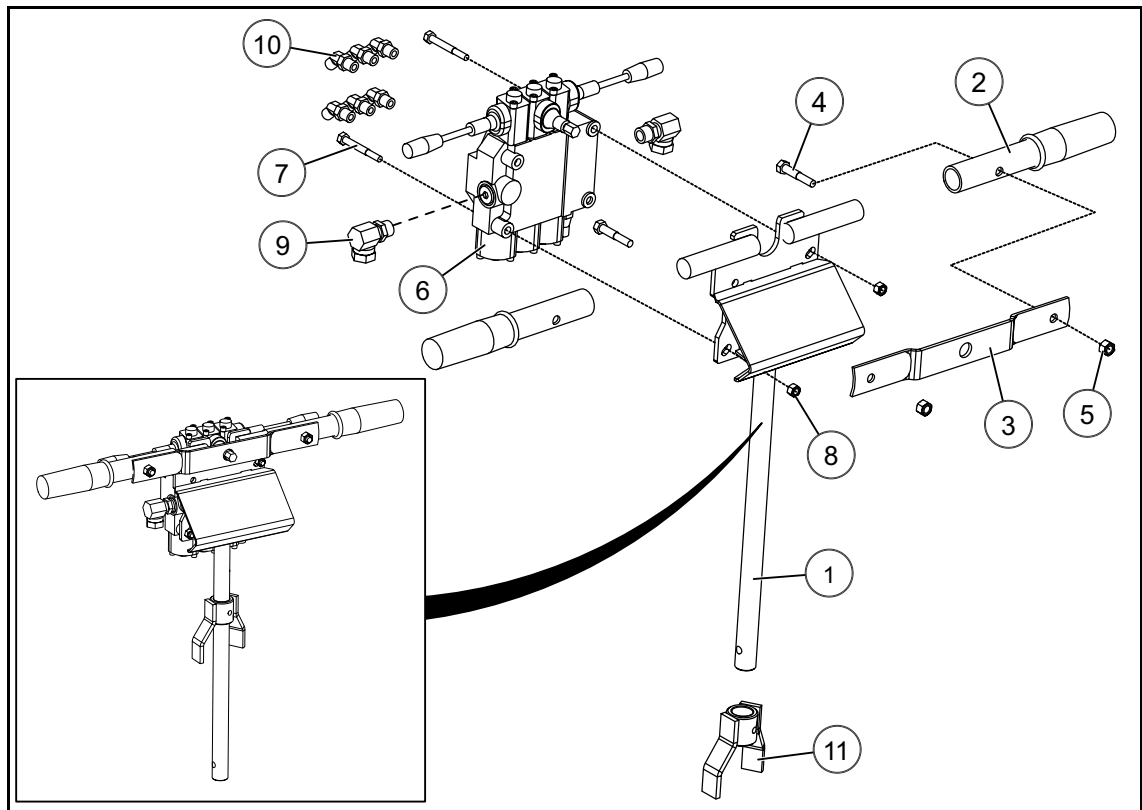
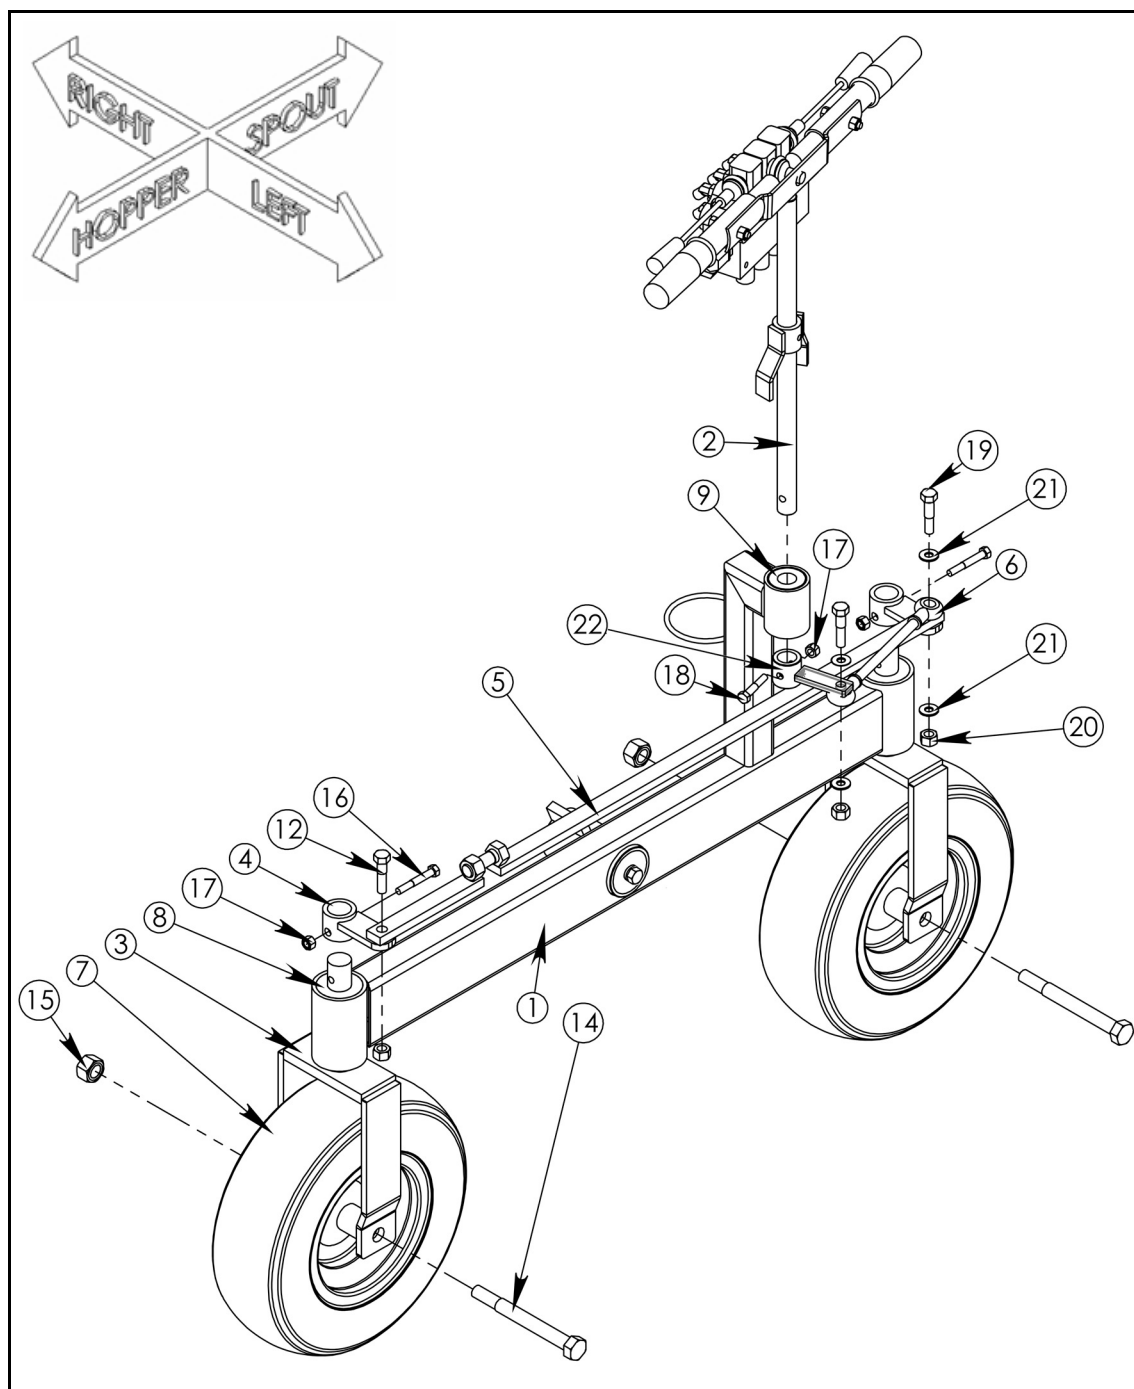

Figure 3.7 Steering Assembly
Figure 3.9 Steering Caster Assembly
1. Slide the steering handles (2) onto the steering weldment (1), and fasten the handle joint (3) to the handles with 3/8" x 2" bolts (4) and 3/8" locknuts (5) (see Figure 3.7).
2. Attach the 3-spool valve (6) to the steering weldment (1) with 5/16" x 2-1/2" bolts (7) and 5/16" locknuts (8).
3. Install swivels (9) and elbows (10) in valve (6).
4. Slide steering stop (11) onto steering weldment (1); do not secure set screw.
2. Install two bearings (8) at each end of the walking beam (1) (see Figure 3.9).
3. Insert straight fork (3) on each end of the walking beam (1) in the bearings and steering pipes (4). Fasten the steering pipes with 3/8" x 2-1/2" bolts (16) and 3/8" locknuts (17).
4. Mount the tires (7) and secure with 3/4" x 7" bolts (14) and 3/4" locknuts (15).
5. Connect the steering link arm (5) and tie rod linkage (6) to the assembly with bolts (12, 19) and 1/2" locknuts (20). Place a 1/2" flat washer (21) on the top and bottom of the tie rod linkage (6) along with the 1/2" x 2-1/2" bolt (19).
6. Slide the steering assembly (2) into the steering pipe welded to the walking beam.
7. Install the retainer with yoke link arm (22) with a 3/8" x 2" bolt (18) and 3/8" locknut (17).
8. Connect the retainer (22) to the tie rod linkage (6) with a 1/2" x 2" bolt (12) and a 1/2" locknut (20). Place a 1/2" flat washer (21) on the top and bottom of the tie rod linkage (6) along with the 1/2" x 2" bolt (12). Adjust until the tie rod is level.
9. Tighten the set screw on the steering stop (Figure 3.7, (5)), once adjusted. Ensure the steering assembly moves easily in both directions without obstruction.